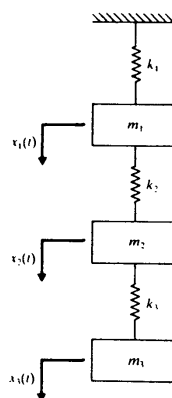

Fig.3
5. Estimate the fundamental frequency of vibration of the system shown in Fig.3, Assume that  $m_1 = m_2 = m_3 = m$ ,  $k_1 = k_2 = k_3 = k$ , and the mode shape is  $X = \{1 \ 2 \ 3\}$